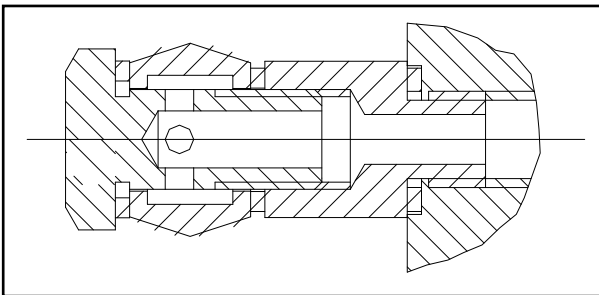

Fig. 32
- ◆ Connect the hydraulic unit to the circuit crossing with a flexible pipe. (**Fig. 32**)